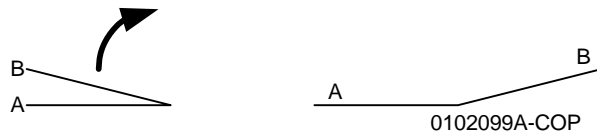

Figure 1 Staple Position
4. Check output against specifications in Figure 1.